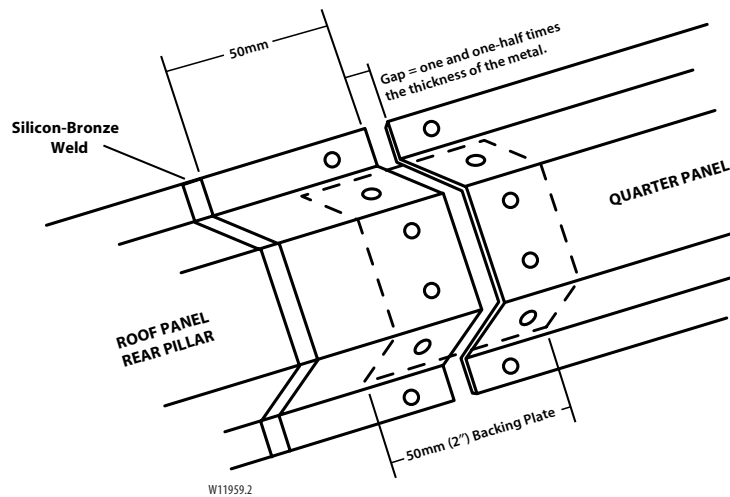

Figure 9-2:
2. Temporarily position the service panel on vehicle. On the service part mark a horizontal line to leave a gap of one and one-half times the thickness of the metal at the sectioning joint. Cut the service panel along this line (figure 9-2).
4. Drill 8mm ( $\frac{5}{16}$  inch) plug weld holes as necessary in the locations noted from the original panel. Also drill plug weld holes along the sectioning cut of the service part. These should be located approximately 13mm ( $\frac{1}{2}$  inch) from the edge of the cut (figure 9-2).
5. Prepare the mating surfaces and position the backing plates with 25mm (1 inch) of the backing plate exposed, and plug weld. Position the service part to overlap the exposed 25mm (1 inch) of the backing plate, check for proper fit and alignment, and plug weld accordingly (figure 9-2).
6. Stitch weld along the entire joint. Make 25mm (1 inch) welds along the seam with 25mm (1 inch) gaps between them. Then go back and complete the stitch weld. This will create a solid joint with minimal heat distortion (figure 9-2).